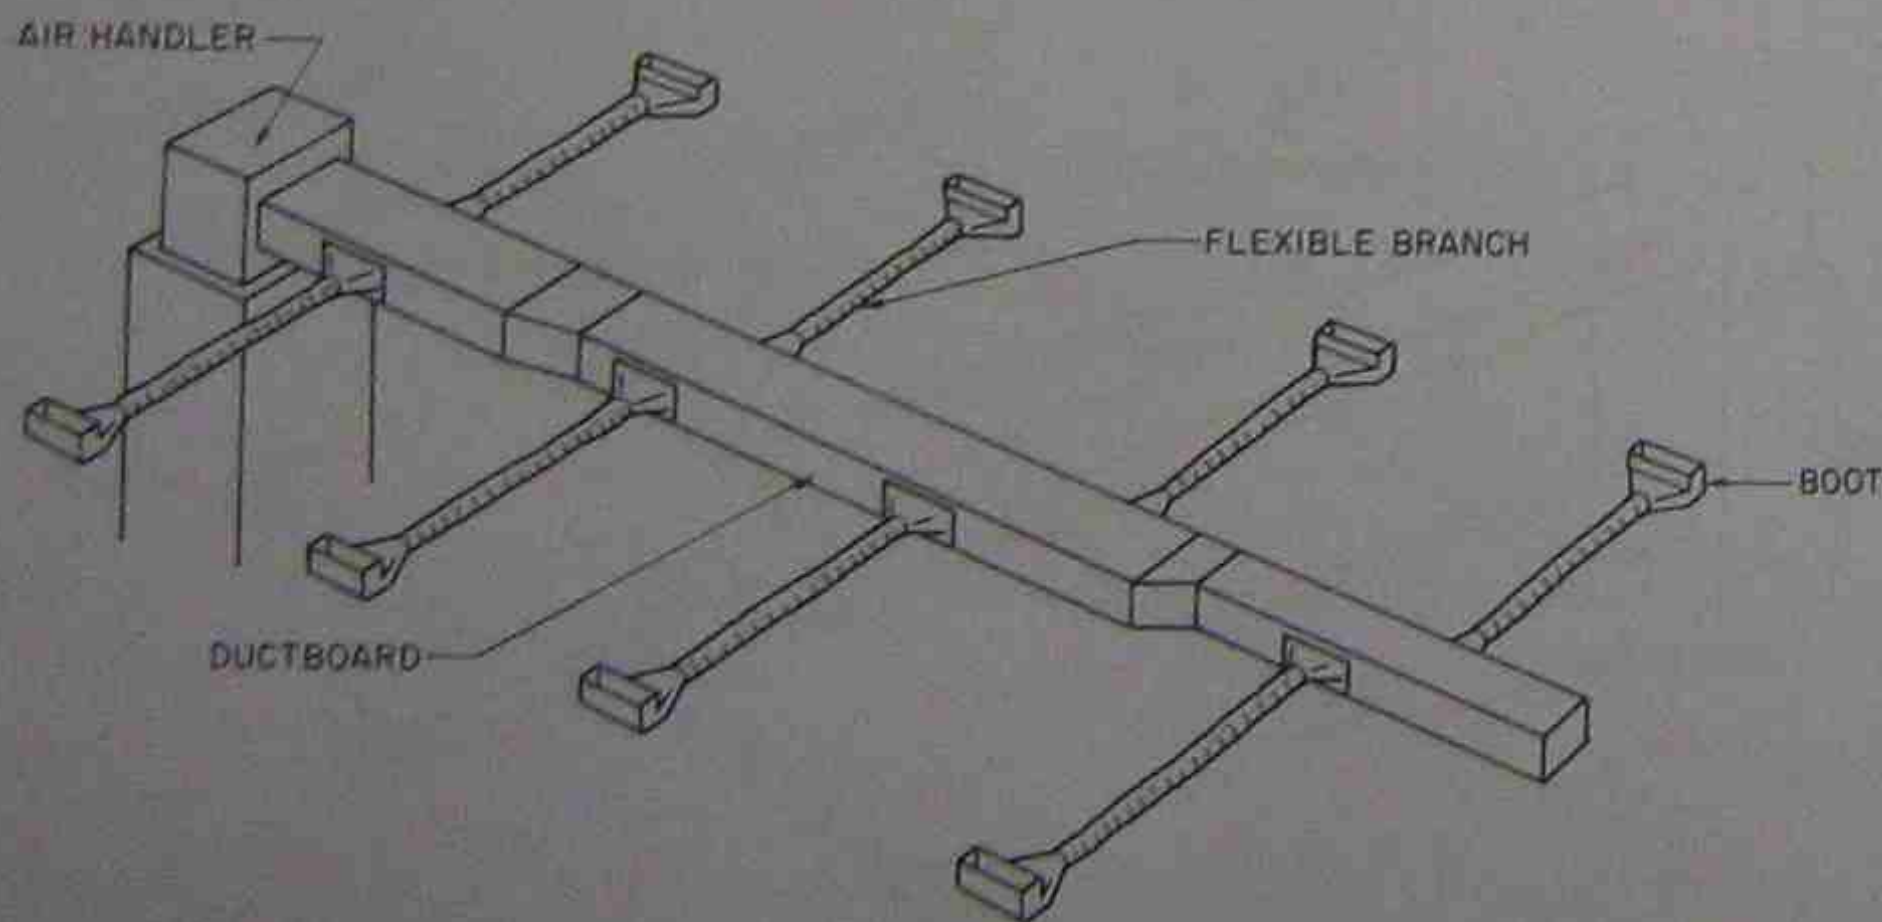

Figure 39-40. Fiberglass ductboard trunk and flexible branch ducts.
7. Ductboard trunk lines with flexible branches, Figure 39-40.